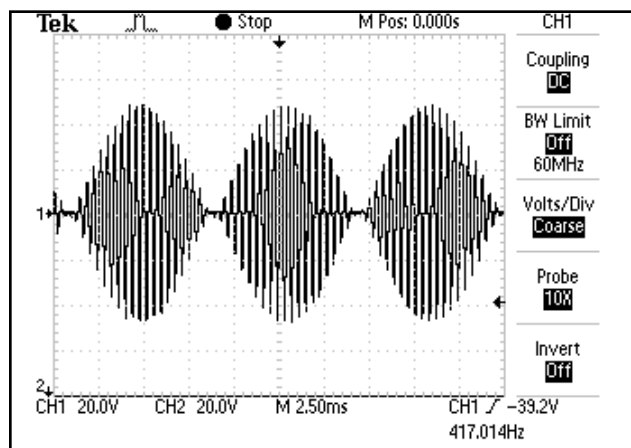

FIGURE 5.7
6. Compare waveform form on scope to Figure 5.7.
1. Waveform is the same between scope and Figure 5.7.